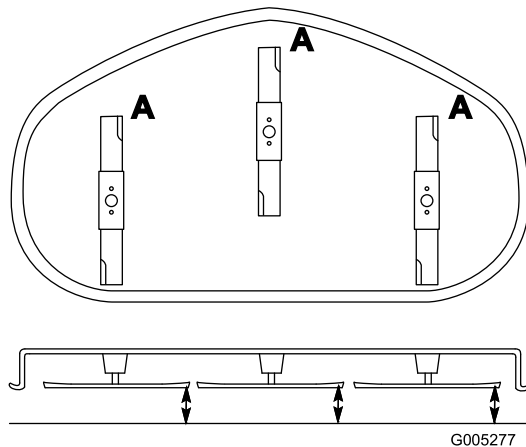

Figure 39
2. Rotate the blades until the ends face forward and backward (Figure 39). Measure from a level surface to the cutting edge, position **A**, of the blades (Figure 39). Note this dimension.